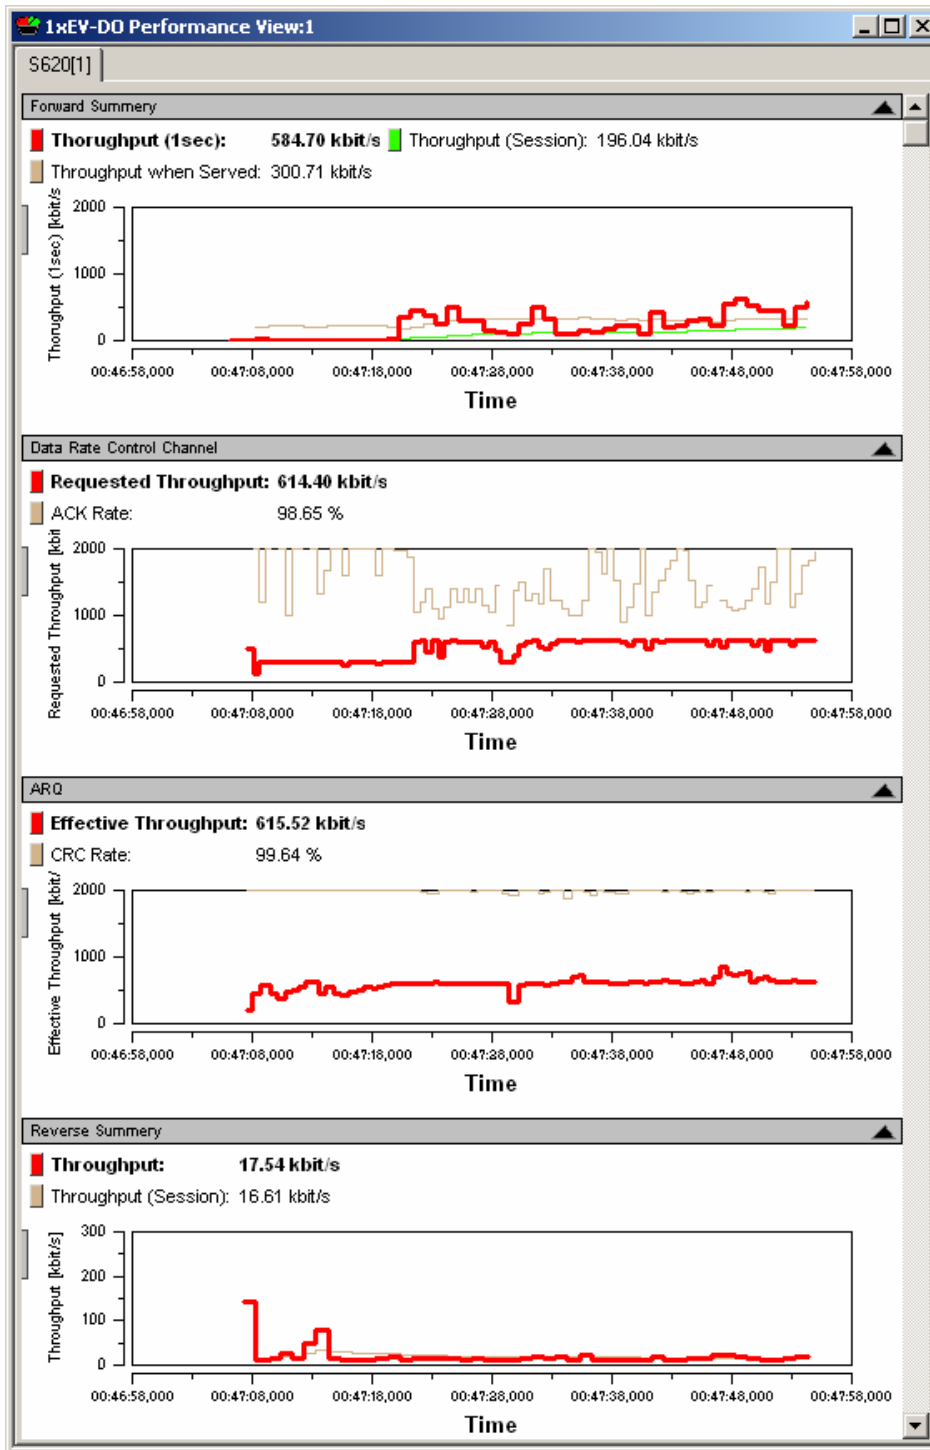

Fig. 4-97 1xEV-DO Performance View
**Forward Summary** The total throughput (see Fig. 4-97 above) of the forward channel is the data throughput that the mobile receives according to the measured forward channel quality.
The requested throughput (see Fig. 4-97 above) by the DRC channel is shown together with the corresponding ACK rate:
The total throughput (see Fig. 4-97 above) of the reverse channel is the data throughput that the access network receives according to the measured reverse channel quality.